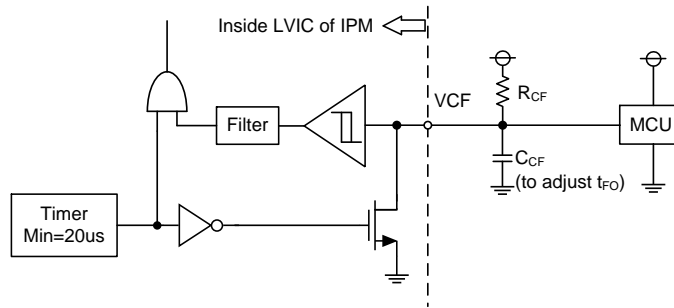

Figure 4. VCF Circuit
- Fault signal (V_{CF}) outputs when SC, UV or OT protection is triggered. Its duration time can be controlled by using the capacitor (see Figure 4). It is noted that VCF output has min. 20 μs of t_{FO} pulse width when SC protection works.
- (1) VCF provides controllable fault output signal duration time and enables MCU to shut down all low-side IGBTs.
- (2) When VCF is in the high state, the IPM operates normally, whereas VCF is in a low state, the low-side IGBTs are turned off until VCF recovers to the high state.
- (3) VCF pin provides fixed or adjustable pulse width of fault output signal. Using pull-up resistor only ($R_{CF}=10k\Omega$) generates t_{FO} of minimum 20usec. If the external capacitor C_{CF} (1nF) is connected with R_{CF} (1M Ω) as shown in Figure 4, t_{FO} is adjusted as the following equation;
- (6) Input circuit: The R_{IN} and C_{IN} filter circuit is recommended to place as close to IPM as possible to reduce input signal noise by switching operation. Typically, they are recommended 100Ω and $1nF$, respectively.
- (7) VCF circuit: VCF should be pulled up to the positive side of the 5V or 3.3V supply voltage with a proper resistor R_{CF} . The recommended value is $10k\Omega$ for the pull-up resistor. To adjust t_{FO} , please refer to Figure 4.
- (8) COM pin: It is recommended to only use COM (15) pin and leave pin (4) as no connection.